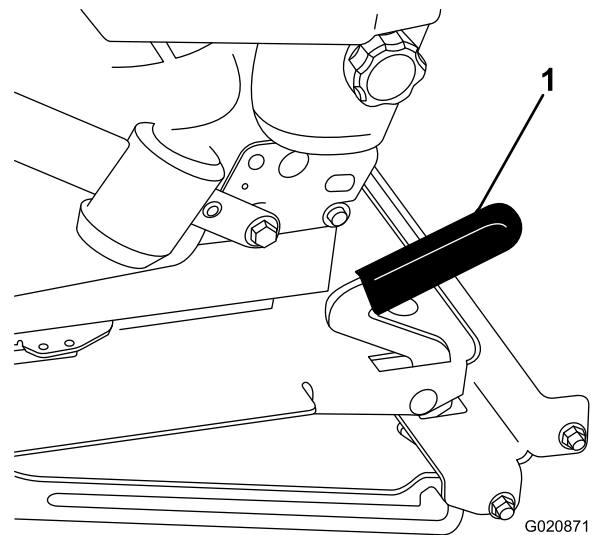

Figure 56
2. Pull the seat latch forward and lift up to unlatch the seat (Figure 56).